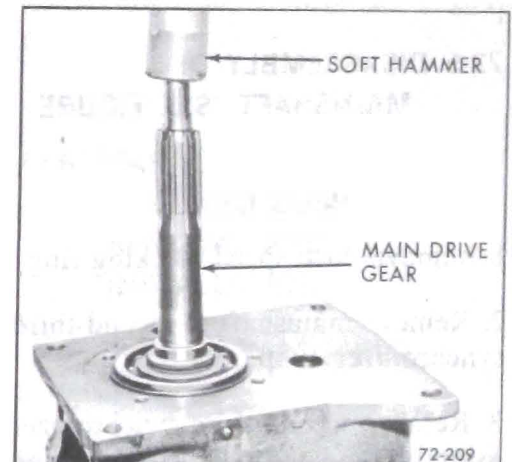

Figure 72-209 - Removing Front Bearing
19. If it is necessary to remove front main bearing, use a soft hammer, tap main drive gear down through bearing as shown in Figure 72-209.